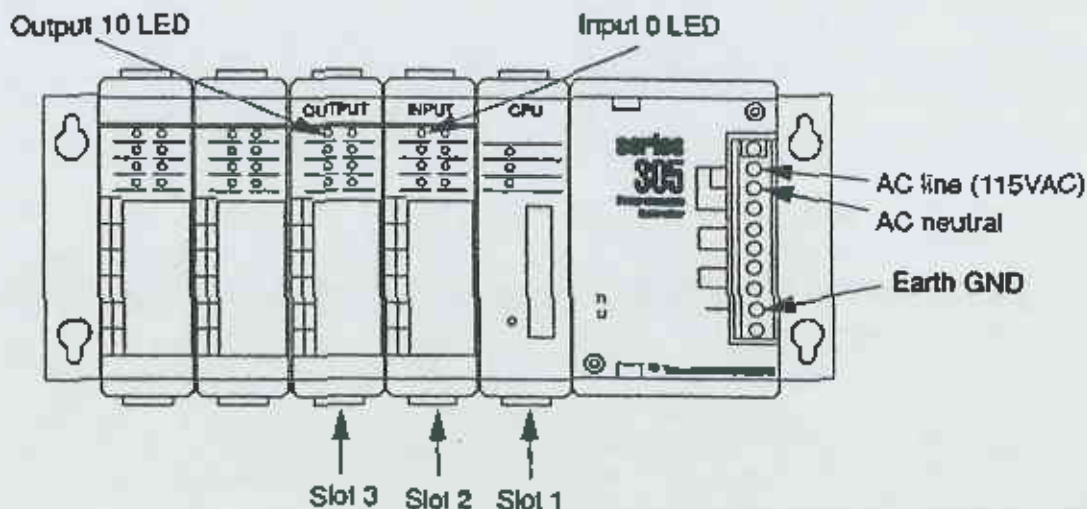

Figure 1-1 Model TI325/TI330 Controller
3. Connect the controller to an AC power source. See Figure 1-1.
- Output 10 LED on the output module illuminates. See Figure 1-1.
- Close the switch hard-wired to the input module. The LED labeled 0 on the output module illuminates. See Figure 1-1.